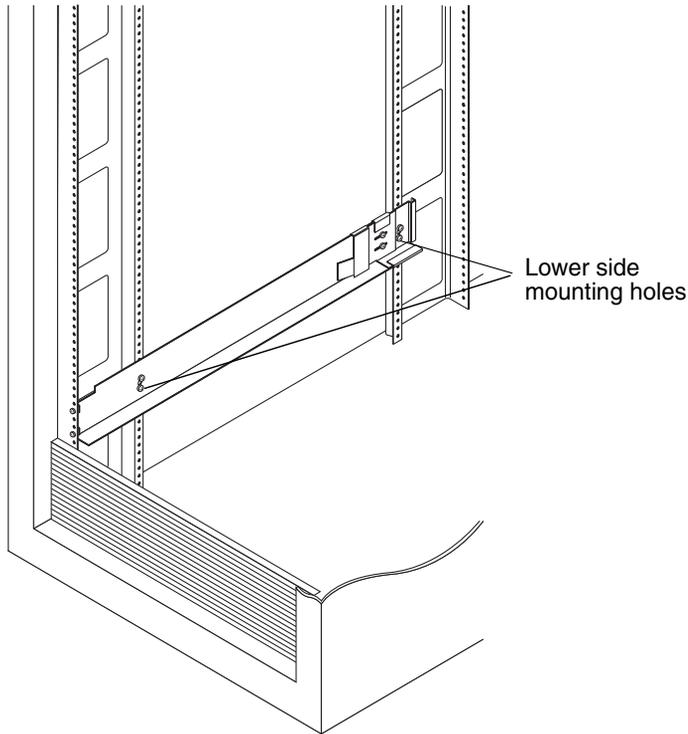

FIGURE 2-6 Inserting Screws in the Lower Side Mounting Holes of the Cabinet
6. Using the #2 Phillips screwdriver, insert two 10-32 screws in the lower side mounting holes of the side rails (FIGURE 2-6). Use hole 8 for the first module and hole 11 for the second module. Repeat for the right rail.